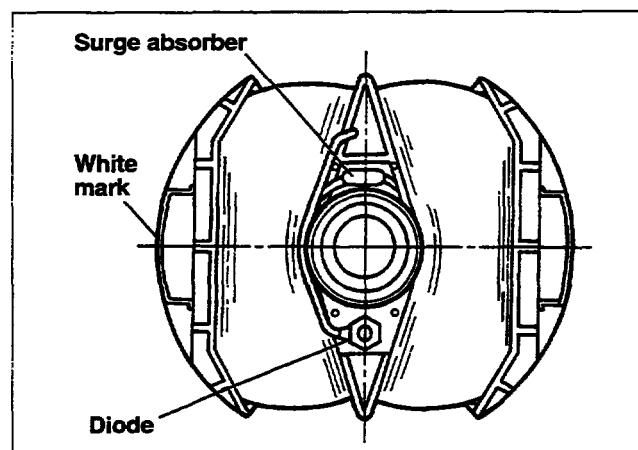

Fig. 11-6
1. As shown in Fig. 11-6, place the white mark on the magnet to left and solder the diodes so that cathode mark is to be placed at the bottom.